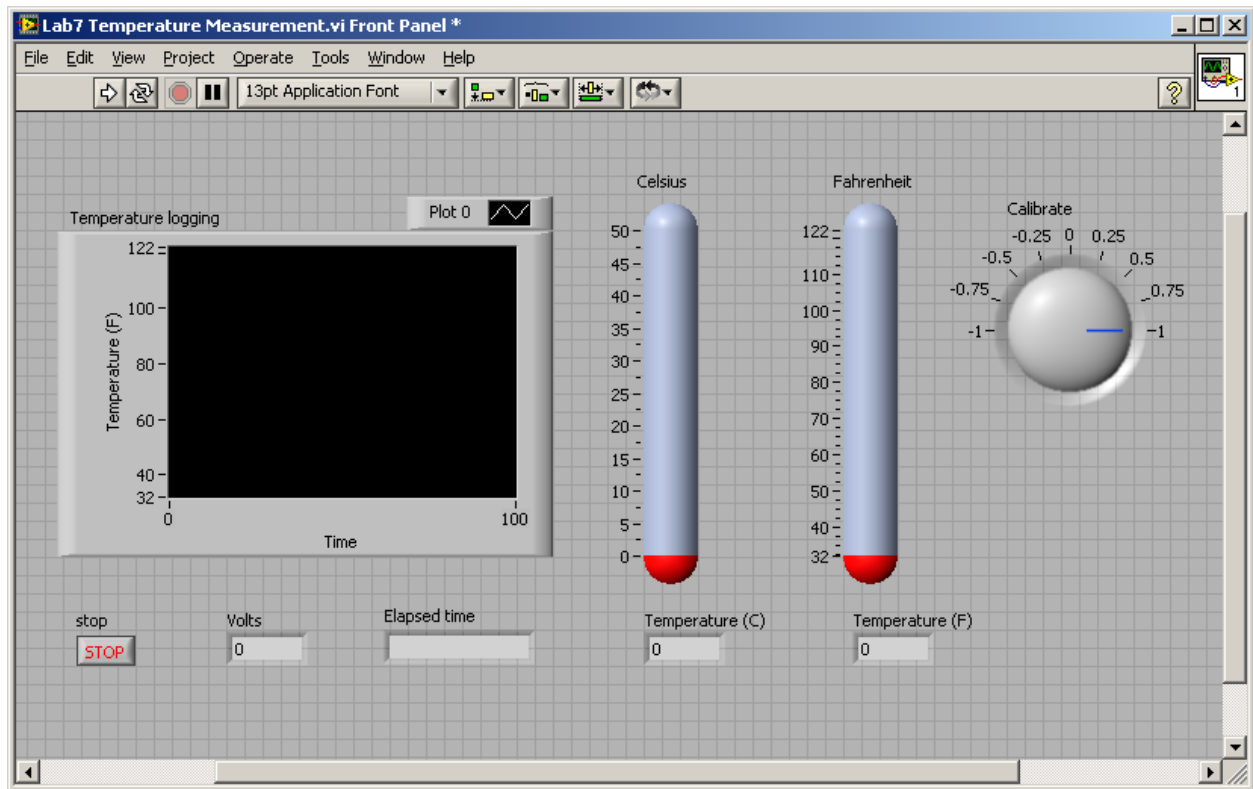

Figure 3: Front panel of the temperature measurement program.
3. Construct VI data acquisition model in LabVIEW® using Figures 3 (Front panel) and 4 (block diagram). A helpful Introduction on how to build VIs by National Instrument employee Fu Ouyang can be found here.